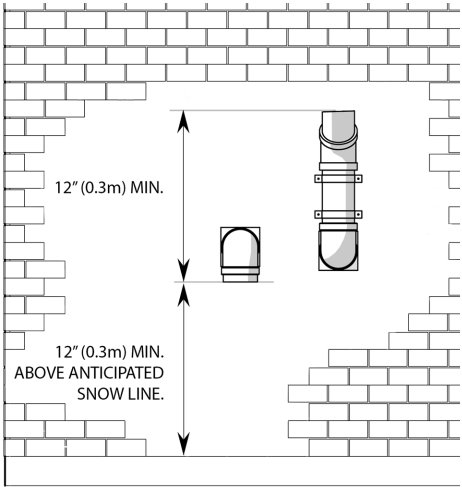
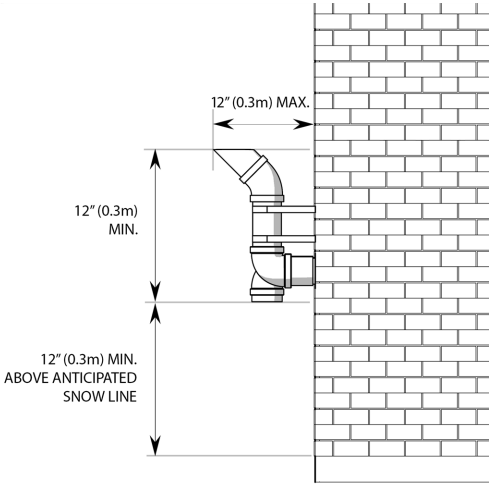
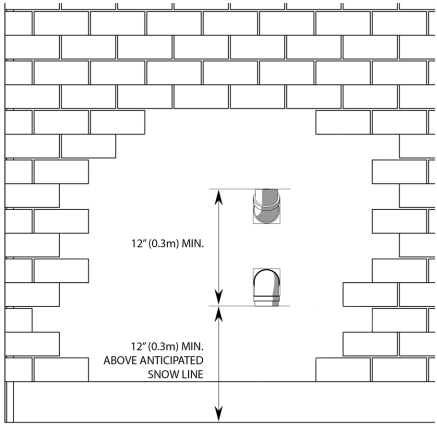
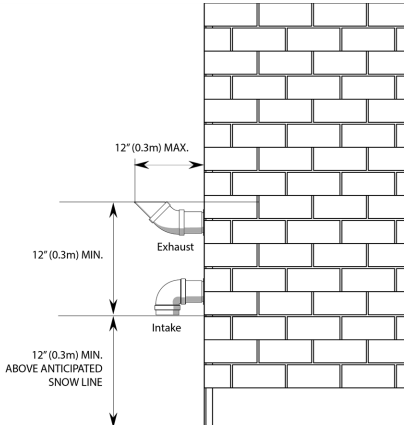

Figure 12 Vent termination clearance--horizontal perforations
Figure 13 Vent termination clearances--horizontal perforations, side view
Figure 14 Vent termination clearance--vertical alignment
Figure 15 Vent termination clearances--vertical alignment, side view
- » (Optionally) Raise the elevation of exhaust termination "periscope style" after passing through the wall, to gain the required clearance as shown in Figure 12 and Figure 13.
- » Use a 45° elbow on the exhaust termination to launch the plume up and off the sidewall (for protection of wall). A short piece of venting cut at 45° gives a horizontal termination protected from wind loads (see Figure 13, and Figure 15).
Important!: Maintain at least the minimum separation of exhaust vent termination from boiler intake air as illustrated in Figure 12, Figure 13, Figure 14 and Figure 15. Failure to do so can result in a dangerous situation where exhaust gasses are re-ingested with combustion air. Damage to the boiler can result from a failure to maintain these separations. Third party vent termination kits and concentric wall penetration kits that do not maintain these minimum separations must **not** be used. Improper installation will void the warranty. Do not use proprietary InnoFlue or PolyPro PP terminals without specific approval from IBC.